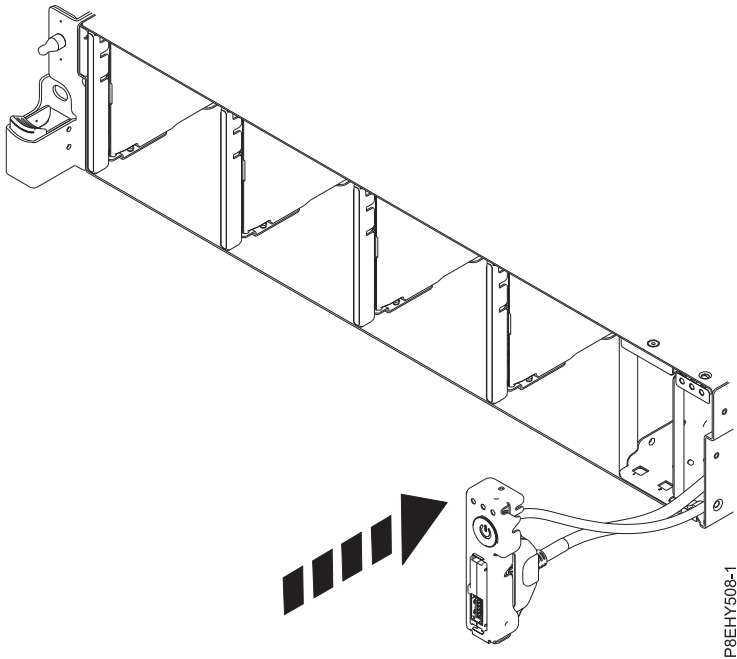

Figure 25. Replacing the front USB cable into the system backplane
4. Insert the power switch and cables into the system. Be careful to route the cables through to the system backplane. See Figure 25 on page 28.